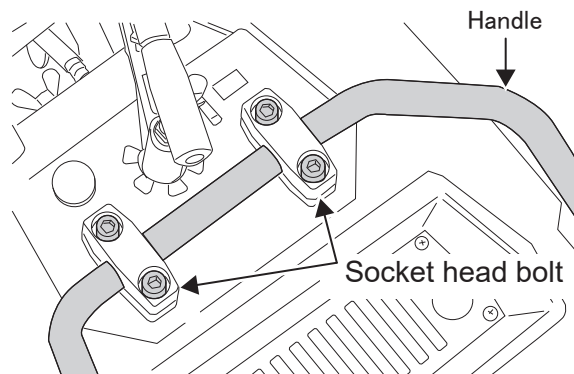

Fig.33
- Check the looseness of the socket head bolts on the handle. And tighten 4 pieces of socket head bolts to fix the handle. (Fig.33)